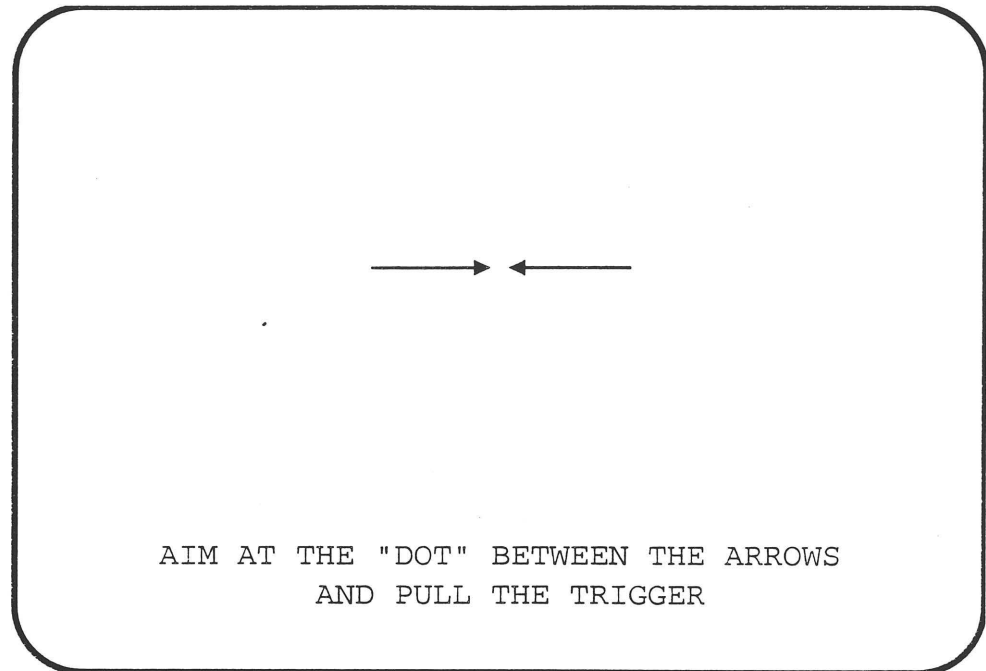

Figure 4-2 GUN ADJUSTMENT Screen
5. Press the START button for the 1-Player gun. The GUN ADJUSTMENT Screen will appear as shown in Fig. 4-2.